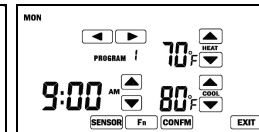

Fig2.
5. Press \downarrow or \uparrow to change the time, heat or cool setting temperature and the program periods 1 to 6(see Fig2).